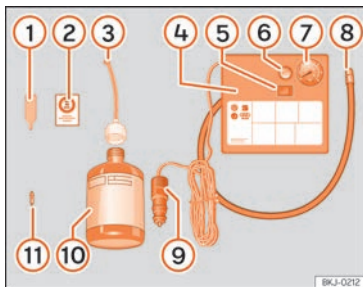

Fig. 224 Standard display: contents of the anti-puncture kit.
The anti-puncture kit is located underneath the floor covering in the luggage compartment. Includes the following components >>> **Fig. 224:**
- Unscrew the tyre valve cap and insert. Use the device >>> **Fig. 224** ① to remove the valve cap. Place it on a clean surface.
- Shake the tyre sealant bottle vigorously >>> **Fig. 224** ⑩.
- Screw the tyre inflation hose >>> **Fig. 224** ③ into the tyre sealant bottle. The bottle's seal will break automatically.
- Remove the filler cap >>> **Fig. 224** ③ and screw the open end of the tube into the tyre valve.
- Replace the howitzer with the device >>> **Fig. 224** ① onto the tyre valve.
- Screw the tyre inflation tube of the compressor >>> **Fig. 224** ⑧ on the tyre valve.
- Check that the air evacuation screw is closed >>> **Fig. 224** ⑥.
- Attach the connector >>> **Fig. 224** ⑨ to the vehicle's 12 volt power outlet >>> page 210.
- Switch on the air compressor with ON/OFF switch >>> **Fig. 224** ⑤.
- Attach the sticker >>> Fig. 224 (2) to the instrument panel display, within the driver's field of vision.
Screw in the inflator tube >>> Fig. 224 (8) again and check the pressure on the gauge (7).